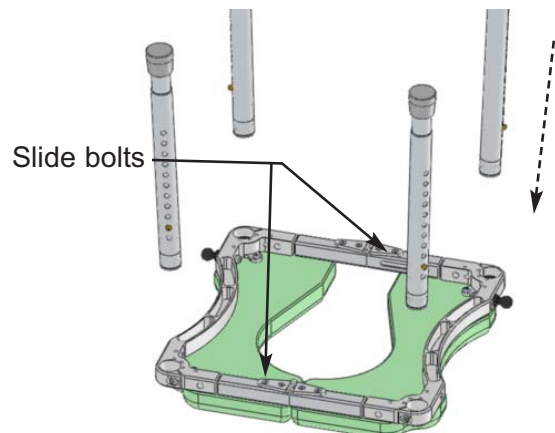

Figure 3
**D** Position the seat frame upside down and install the four legs. Note that the top of each leg has a machined portion approximately one inch wide. The top end of each leg should fit easily into the socket of the frame. Make sure that the legs slide "home" into the sockets. Use the included 1/4" Allen wrench to tighten the bolts located at the corners of the frame. For ease of future leg height adjustment, position each leg in the socket so that the adjustment holes face outward (Refer to Figures 3).